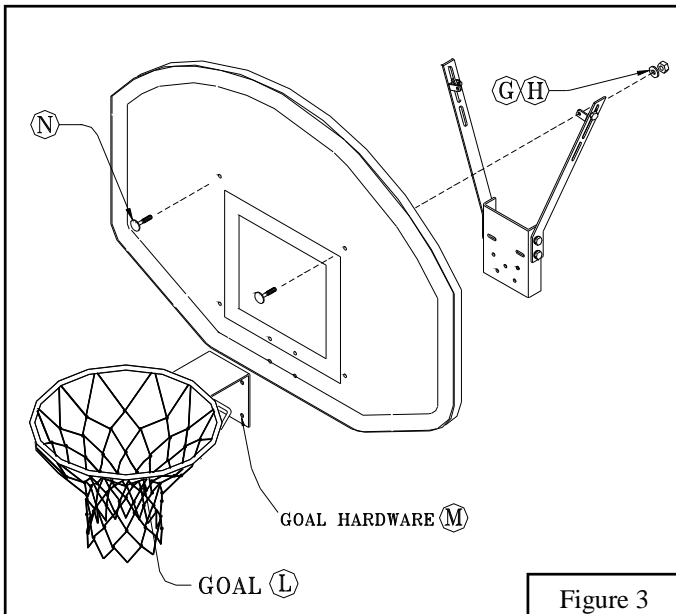

Figure 3
6. Mount the *Backboard (K)* and *Goal (L)* to the *Extension Arm Assembly (B)* using the hardware provided with the *Goal (M)*. See Figure 3, 4 or 5
7. On BA832 systems attach 2 *Backboard Mounting Angles (E)* to the *Backboard (K)* using 5/16" x 1 1/2" *Carriage Bolts (N)*, 5/16" *Flat Washers (H)* and 5/16" *Flange Nuts (G)*. On BA833 systems attach the 4 *Backboard Mounting Angles (E)* to the *Backboard (K)* using the *Acrylic Backboard Hardware (J)*. Follow the instructions provided with the hardware marked "BAACRYLIC". See Figure 3 and 4